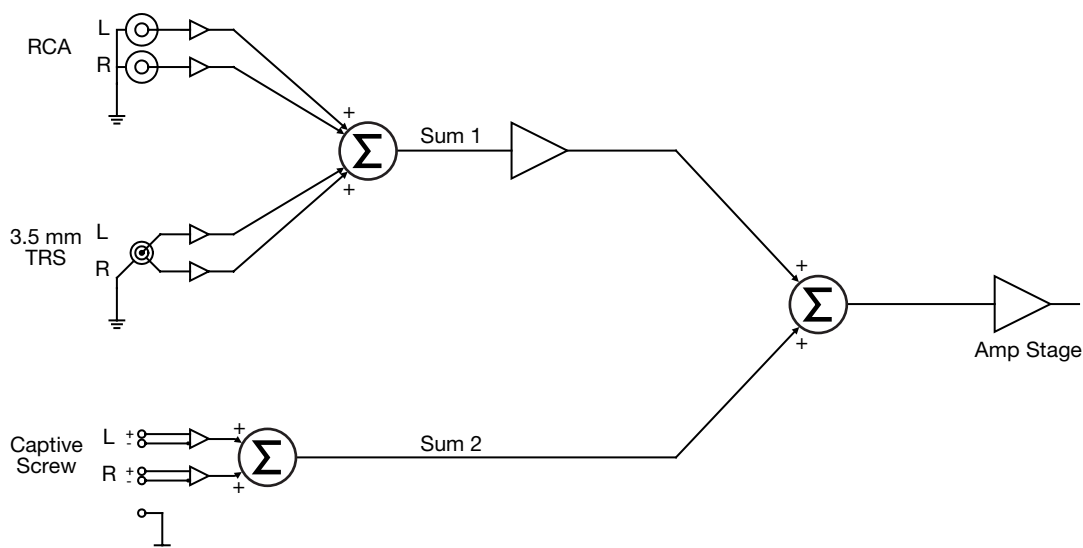

Figure 6. Summing MPA 410 input signals to form a single mono output signal
The signals from multiple inputs are summed to produce a single output signal (see figure 6 on page 9).
- The MPA 401 amplifier sums the left and right signals from both the TRS and RCA inputs to form Sum 1. Sum 1 is then weighted. At the same time, the amplifier sums the left and right signals from the captive screw input to form Sum 2. Sum 1 and Sum 2 are then summed together to form a single mono signal. See figure 6 below for more details.